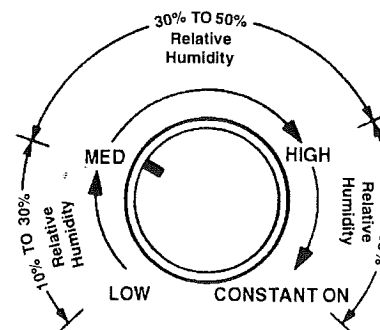

Figure 11
3. Set Humidity Control to **Medium** position. (See Fig. 11)
4. If humidifier stops running, the humidity level is at the normal requirements for that setting or it is adjusting to the home conditions. Figure 11 shows approximate relative humidity percentages which correspond to the various settings of the Humidity Control.